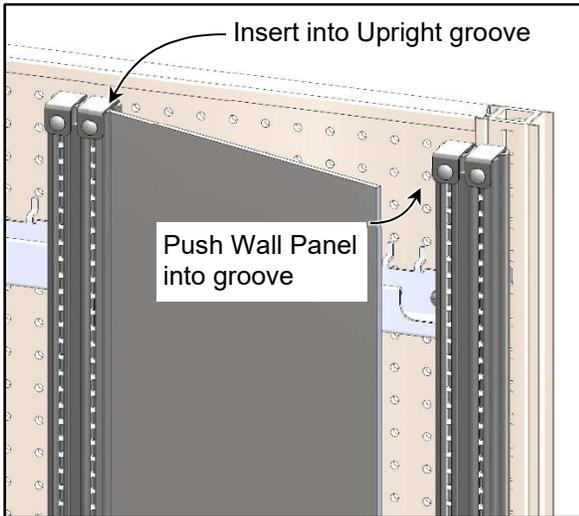

Figure 18
Note: If space is limited at the far left or far right of a set, the Upright at the end may be moved inward 1". The Upright can be mounted in either of two adjacent mounting slots in the rear of the Upright. This will require 1" to be cut off the width of the Wall Panel (See Figure 18 & 19).
4. Install the Wall Panels by inserting one side into the groove of the Upright (See Figure 18).
5. Push the opposite side of the Wall Panel into the opposite Upright groove as shown. The Wall Panel may bow slightly before popping in (See Figure 18).